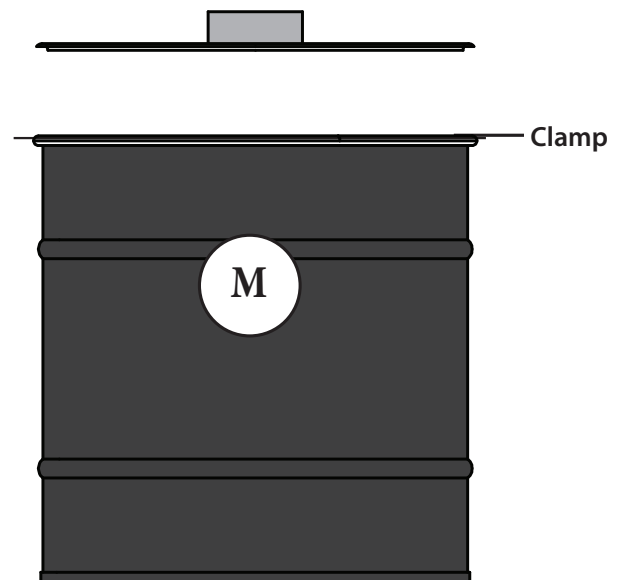

FIG. 23
Seal the Drum (M) closed using the provided clamp [FIG. 23].